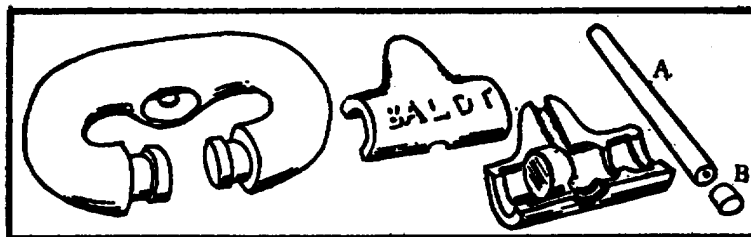

Fig. 2-25 Detachable line (and installation)
- a The detachable link consists of a C-shaped link, two side/stud plates, a tapered pin, a lead plug and a hairpin (See **Figure 2-25**). On each end of the C-shape is a button. The side/stud plates are made so they grip the buttons and hold them from spreading under a load. To keep the plates from falling apart, a tapered pin is driven through the eyes on each plate and into the stud hole. The tapered pin is grooved and the plates drilled to accept the stainless steel hairpin. The hairpin and the lead plug are used to retain the tapered pin.
- b Care must be taken to ensure that the side plates are properly attached to the C-shape. Note that a number is stamped on top of the C-shape and each plate. The same number can be found on the tapered pin of hairpinned links. Although these pieces may look interchangeable, they are not. All the pieces must have the same number. Install the plates with their numbered corners meeting the numbered end of the C-shape (See **Figure 2-25**).